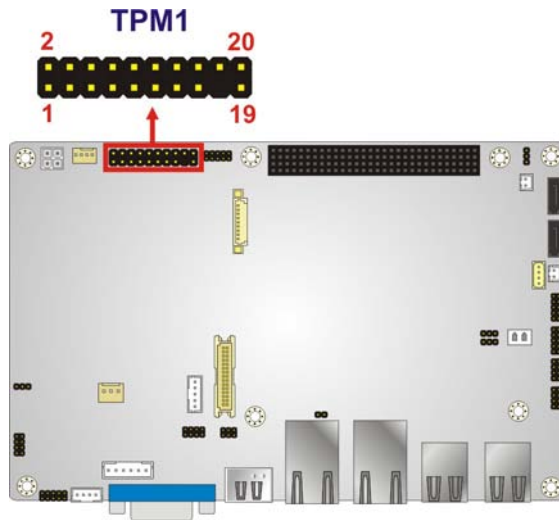

Figure 3-22: TPM Connector Pinout Location
- CN Location: See **Figure 3-22**